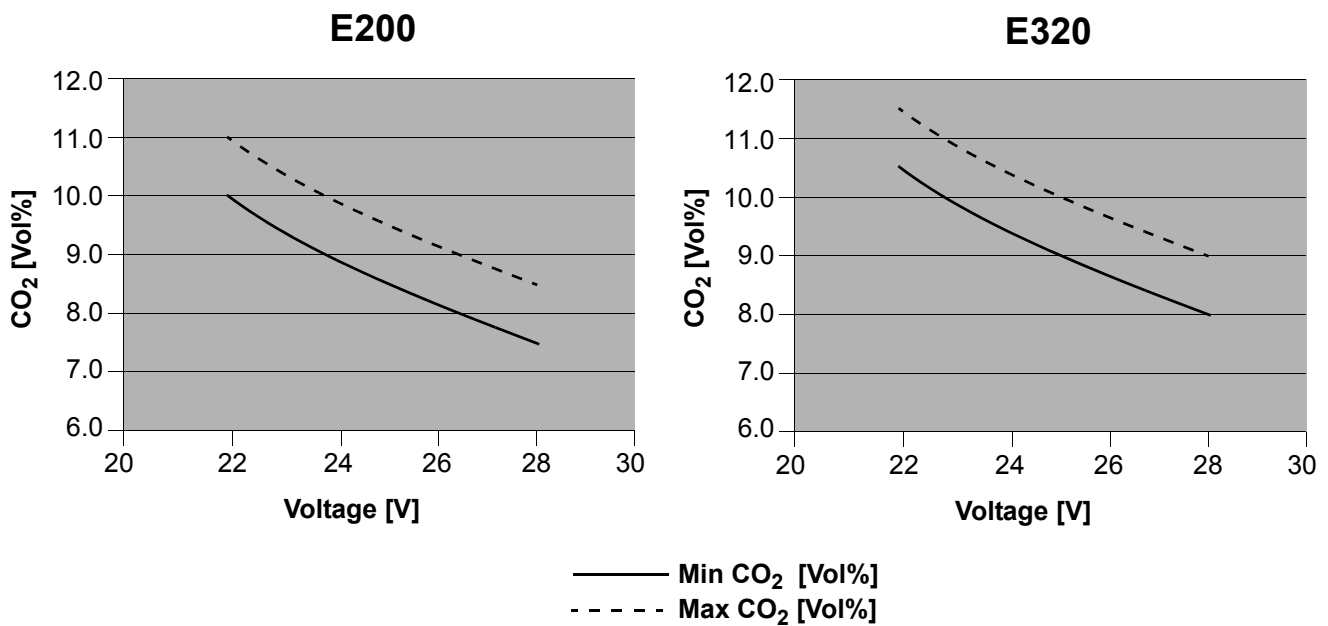

Fig. 701 Diagrams CO₂ value and dependency on voltage
3. Measure the CO₂ content and the smoke number and compare readings with the appropriate diagram (see Fig. 701).